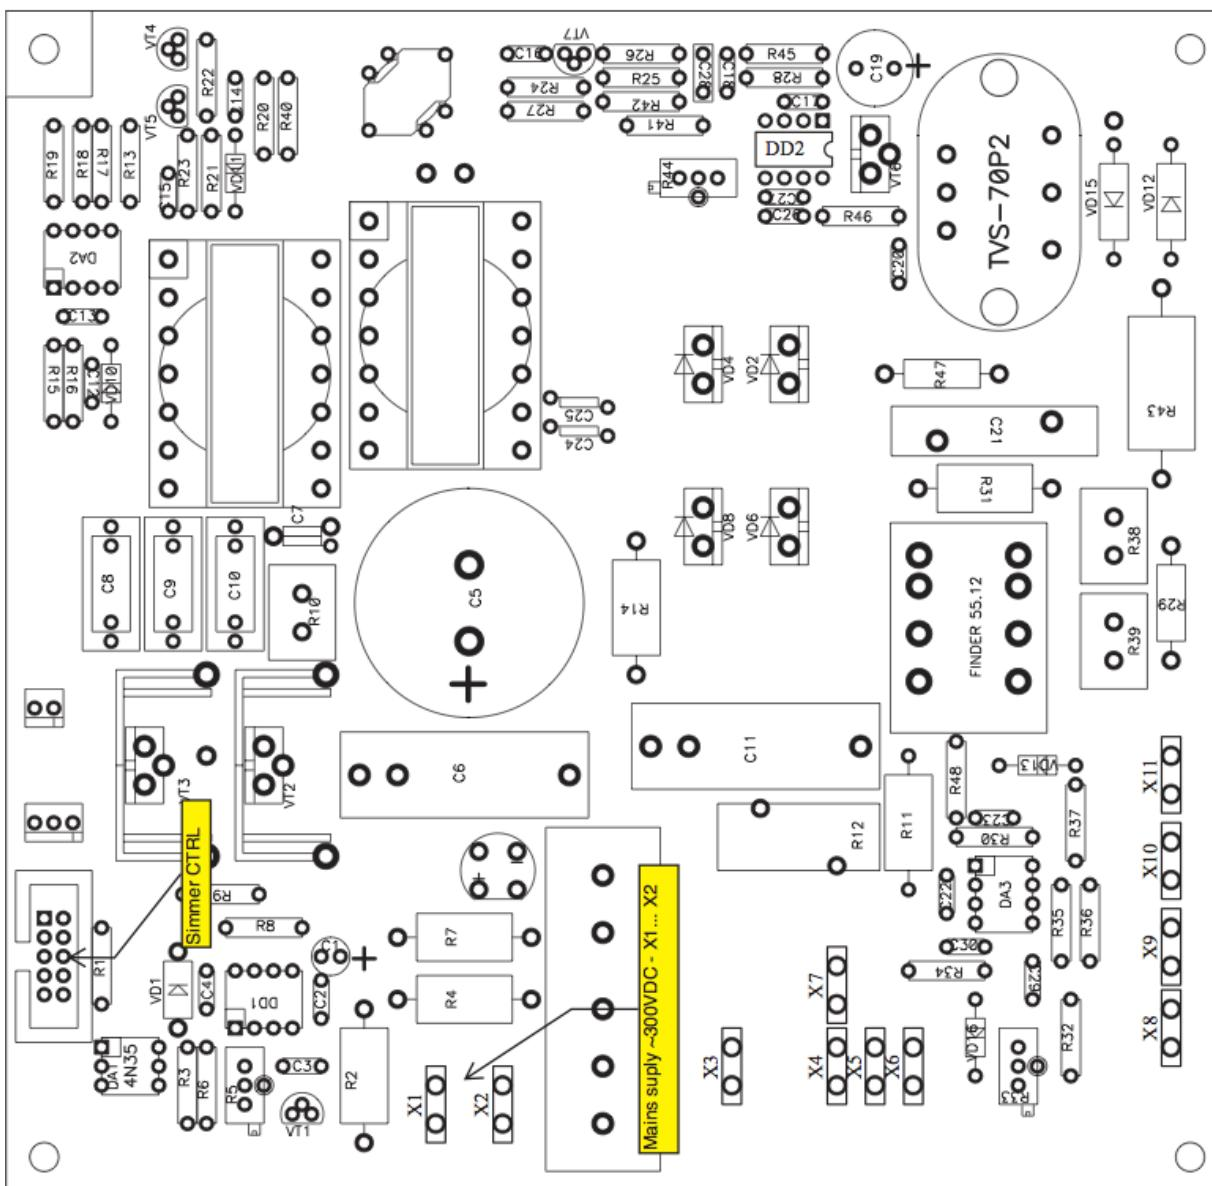

Figure 46 LM06 board
10. Measure if 300V supply is present (Figure 46), measure it between X1 and X2. If this voltage is not present, check the 24V power supply board.
11. Measure control signal - when switching power supply on, on XP1 connector (10 pin flat cable) on 6 pin voltage must change from +15V to ~0V (Figure 46). If the voltage does not change, check the cable and PS5053CPU board (instructions below).